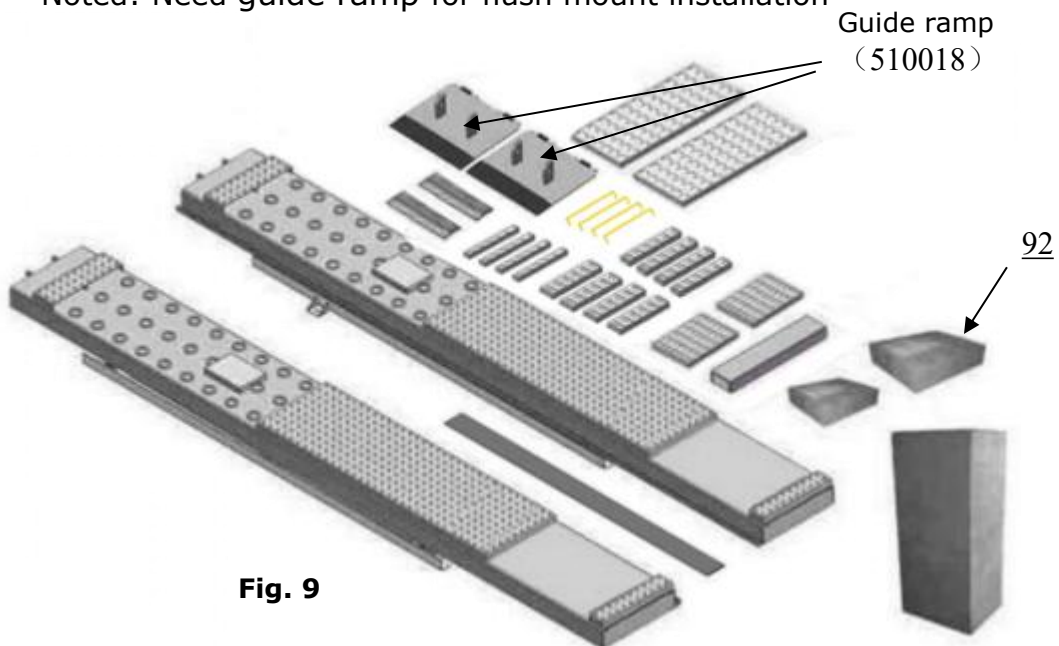

Fig. 9
- 2.2 Parts for flush mount installation (See Fig.9)